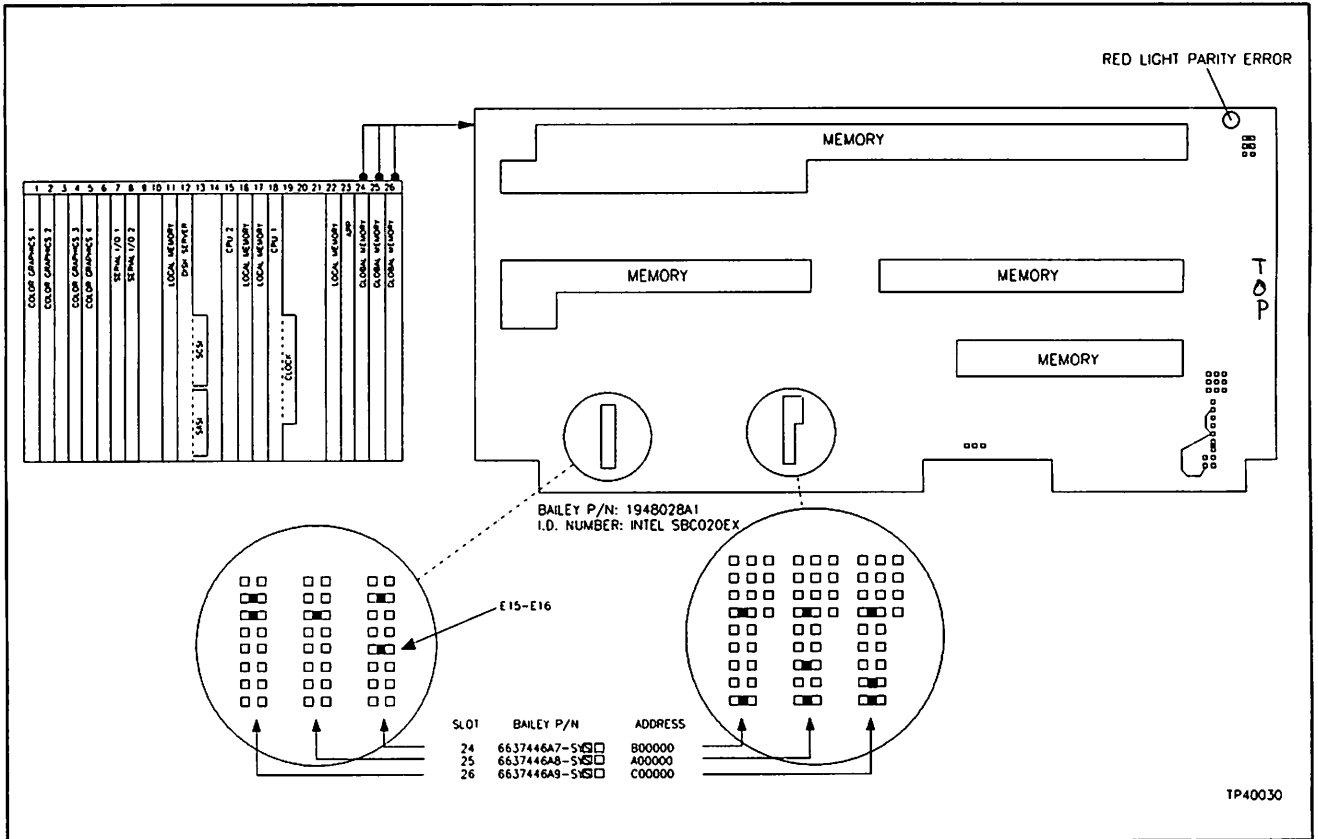

Figure 3-12. Two Megabyte RAM Memory Card (I.D. Number INTEL SBC020EX)
**NOTE:** Where both types of global memory cards are present, the same type must be grouped side-by-side, in contiguous memory locations. For the Intel SBC020EX, the E15 - E16 jumper (Figure 3-12) must be installed in the memory card in the highest address range. For example, if an Intel SBC020EX is installed in slot 24 and slot 25, and a PSM-2P is installed in slot 26, the Intel SBC020EX in slot 25 requires a jumper on E15 - E16.